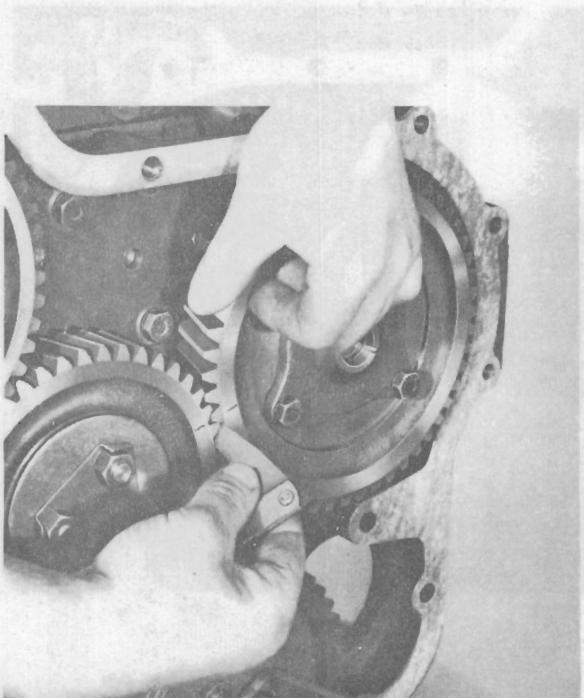

Fig. J.3.
2. Check the back-lash between the gears as seen in Fig. J.3 using a feeler gauge. The back-lash should be a minimum 0.003 in (0.076 mm). On certain applications floating hubs are fitted and timing gear back-lash must be set from 0.003 in to 0.006 in (0.076 mm to 0.125 mm) before the gear and hub assembly is finally tightened.